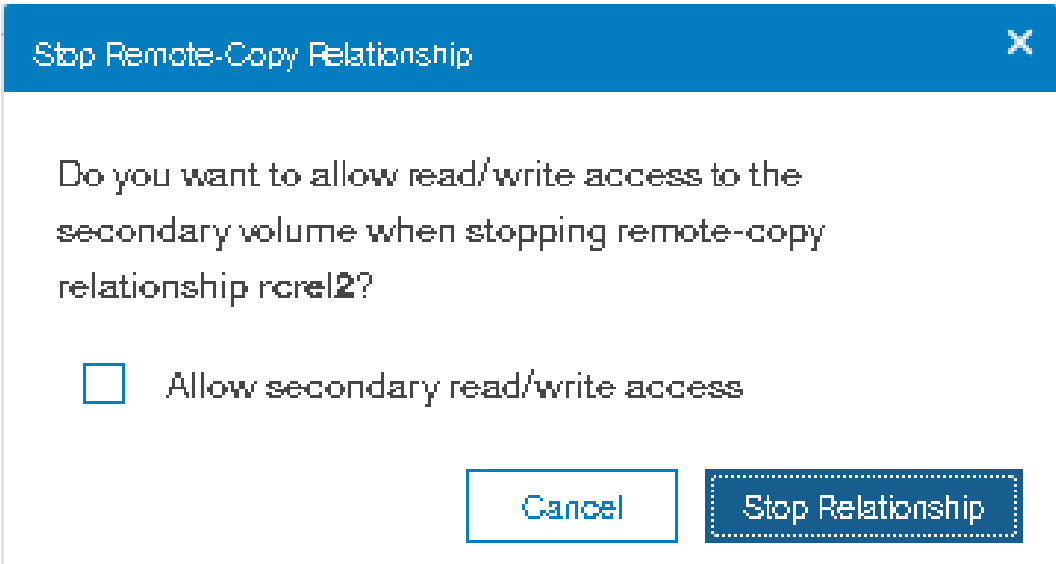

Figure 10-145 Stop Remote Copy Relationship window
5. The Stop Remote Copy Relationship window opens, as shown in Figure 10-145. To allow secondary read/write access, select **Allow secondary read/write access**. Then, click **Stop Relationship**.